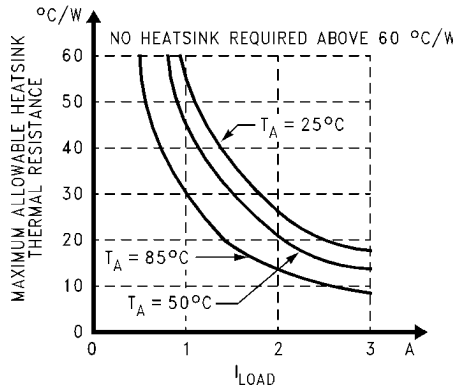

FIGURE 9. Heatsink Thermal Resistance Requirements for *Figure 8*
D. A heatsink may be required for this transistor. The maximum allowable value for thermal resistance of the heatsink is dependent on ambient temperature and load current (see curves in *Figure 9*). Once the value is obtained from the graph, a heatsink must be selected which has a thermal resistance equal to or lower than this value. If the value is above 60°C/W, no heatsink is required (the TO-220 package alone will safely dissipate this).